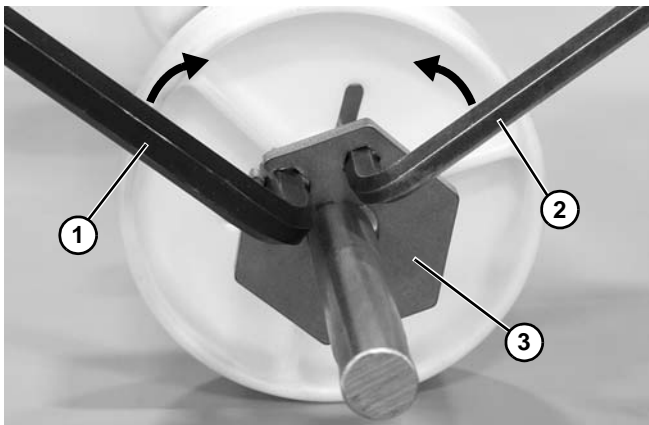

Figure 61
3. Insert an 8 mm (**Figure 61, item 1**) and 6 mm (**Figure 61, item 2**) hex wrench into the retainer plate.
4. Move wrenches toward each other to unlock the retainer plate (**Figure 61, item 3**) and remove from the shaft.